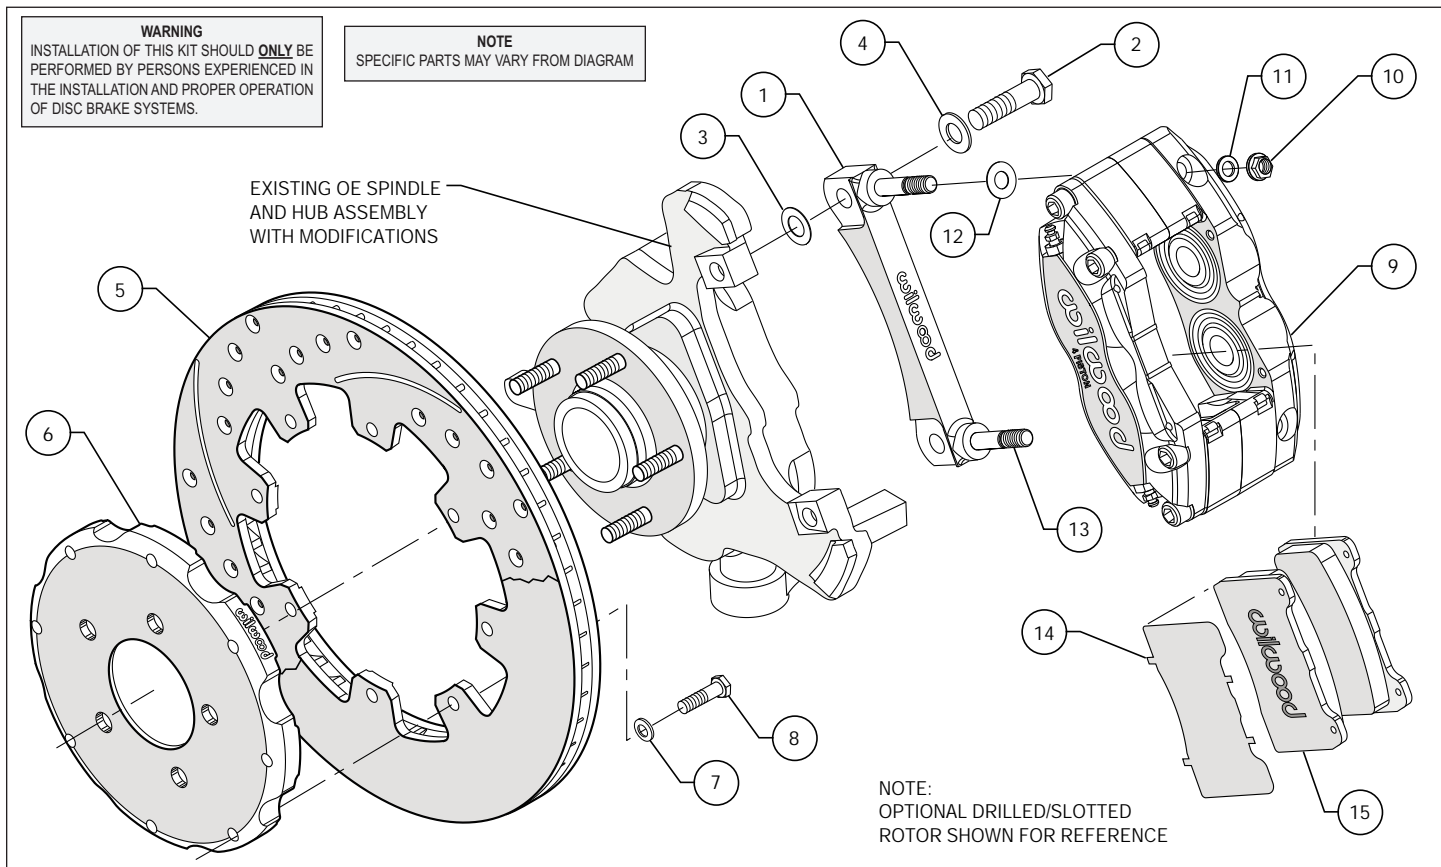

Figure 3. Typical Installation Configuration
•The caliper mounting bracket assembly (1) should be installed first with clean, dry threads on the mounting bolts. Install the bracket from the rear side of the spindle by sliding bolts (2) through flatwasher (4). Place shim washer (3) between the bracket (1) and the backside of the spindle (see Figure 3). The bracket must tighten squarely against the side of the spindle body. Inspect for interference from casting irregularities, machining ridges, burrs, etc. Use one thin shim (3) between the spacer and spindle during initial trial fitting.